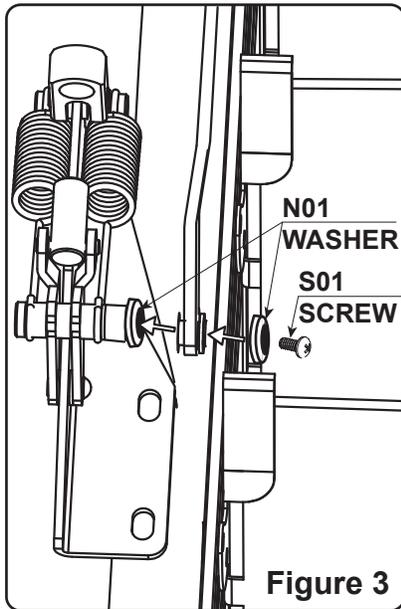

Figure 3
4. Secure the **Stepped Link Arm** to the **Clutch Rod** with the screws and washers. See **Figure 3, 4 and 5**.
5. Lay the opener against the **Louver Frame**. Push the opener upwards until the window is fully closed. Make sure the opener is aligned with the **Stepped Link Arm**. See **Figure 3**.